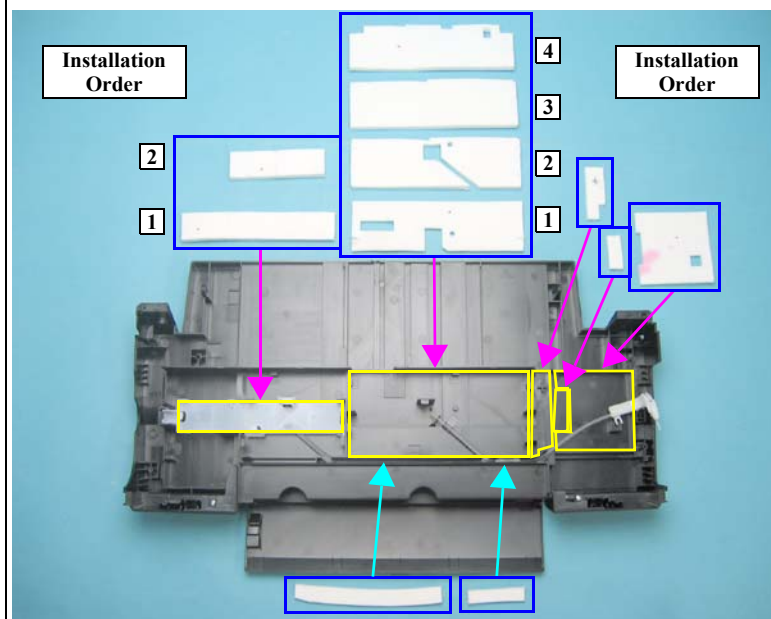

Figure 4-22. Installing the Waste Ink Pads
- Referring to Figure 4-22, correctly install the Waste Ink Pads.